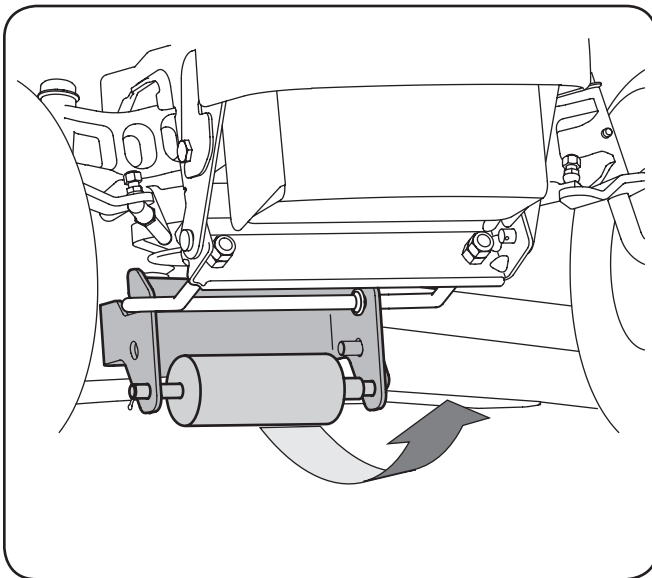

Figure 7-4
8. Gently slide the cutting deck toward the front of the tractor, carefully guiding the hooks on the deck off of the deck stabilizer rod. See Fig. 7-4.